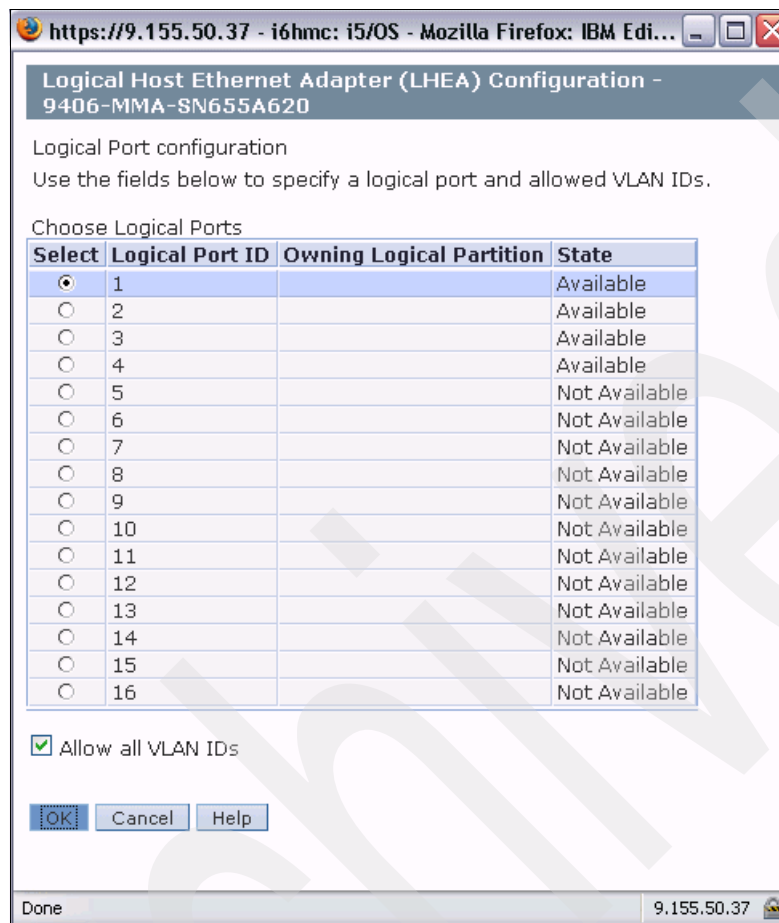

Figure 6-34 Logical Host Ethernet Adapter Configuration dialog
14. The Logical Host Ethernet Adapter Configuration dialog in Figure 6-34 shows that there are no other partitions using the HEA port T2 that we selected, so we choose the first available logical port with ID 1, select **Allow all VLAN IDs**, and click **OK** to proceed.